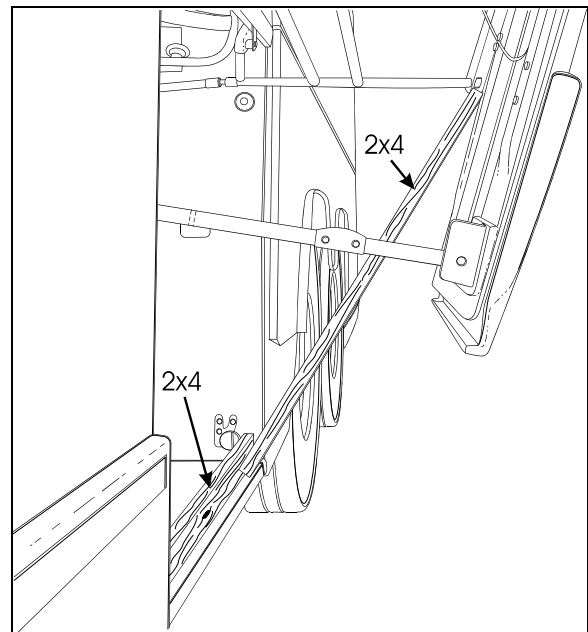

FIGURE 57: PANTOGRAPH ADJUSTMENT
3. Install another piece of 2x4 between the first piece and the bottom of the pivot of the lowest (or shortest) pantograph arm, (Fig. 57).